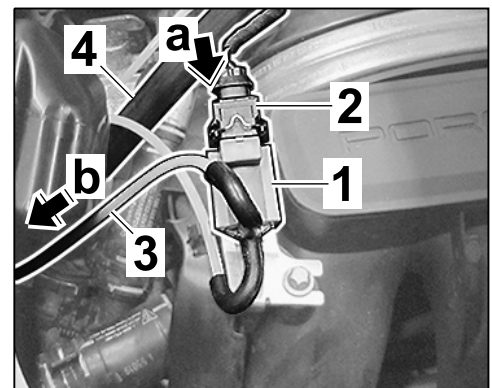

Figure 30
- 6.3 Slide change-over valve ⇒ *Figure 30-1-* onto the change-over valve holder. Route the longer vacuum line ⇒ *Figure 30-3-* along the shift cable ⇒ *Figure 30-4-* and down to the transmission ⇒ *Figure 30-arrow b-*.
Connect plug connection ⇒ *Figure 30-arrow a-*.